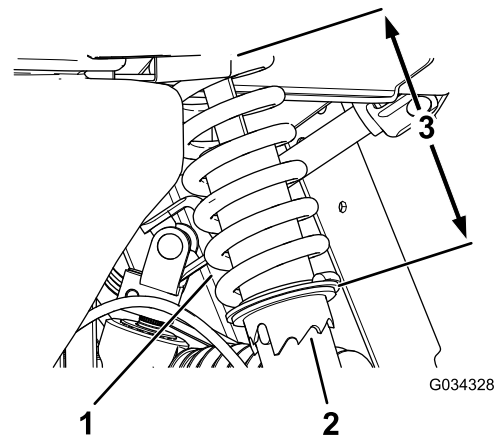

Figure 53
1. Using Toro Tool No. 6010, rotate the collar on the shock absorber to change the length of the spring (Figure 53).